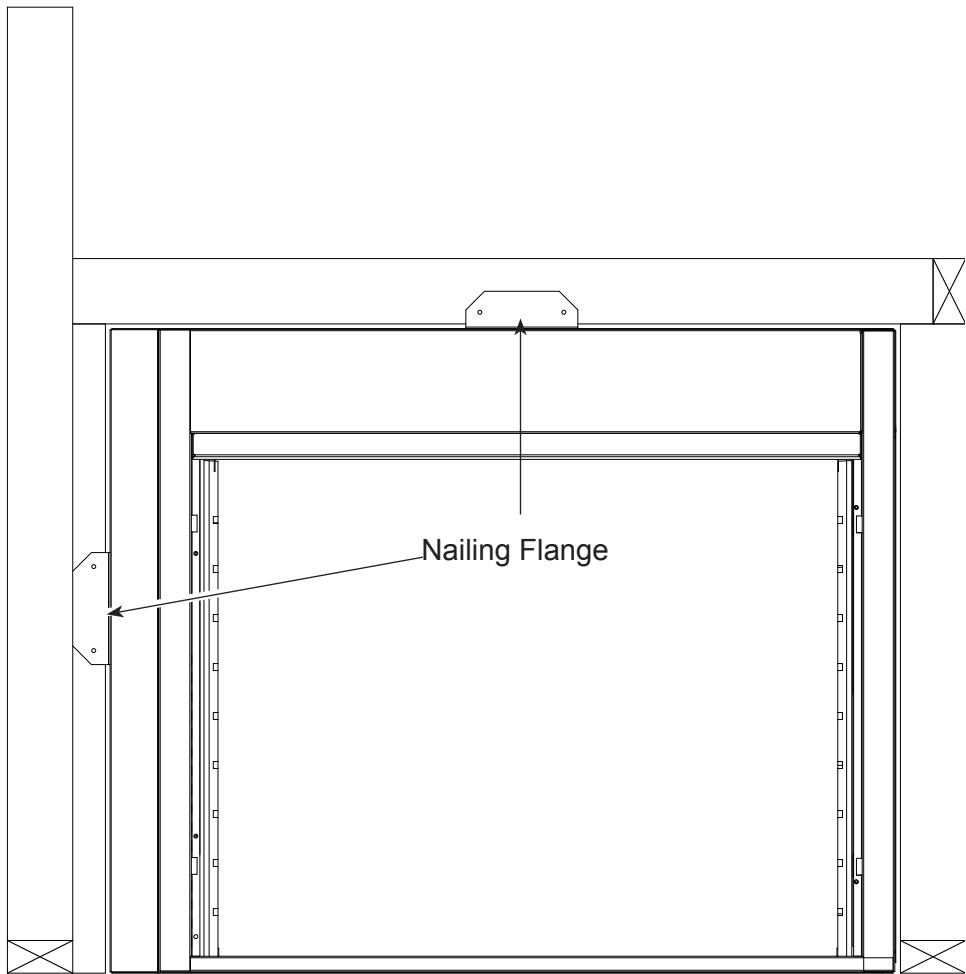

Figure 17 - Location of Nailing Flanges and Floor Screws
5. Attach nailing flanges to studs. **See Figure 17.**